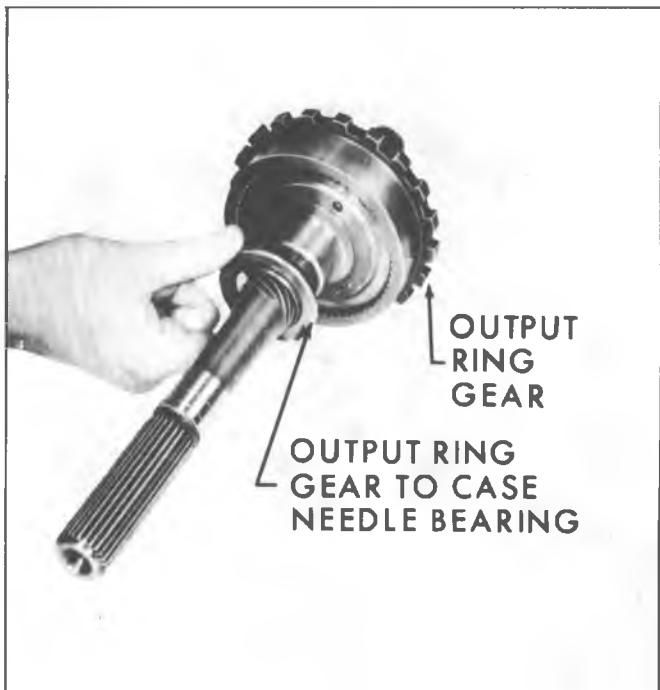

Fig. 7A-47B--Removing Output Ring Gear to Case Needle Bearing Assembly
18. Remove output ring gear and shaft assembly from case (fig. 7A-45B).